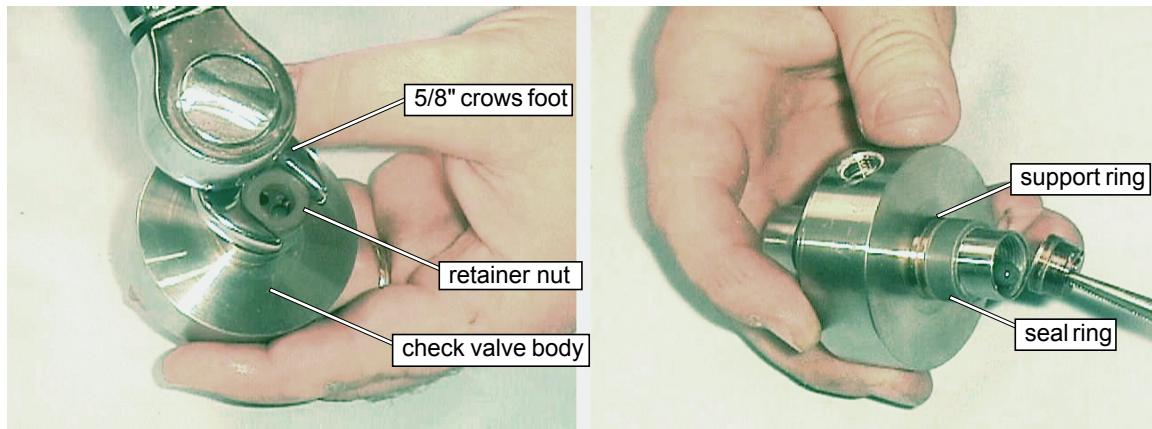

Figure 6-19
1. Begin disassembly of **check valve assembly** from the inlet (Cylinder) side. Clamp **check valve body** into soft-jaws of a vise. Use the 5/8" crows foot to remove the **retainer nut** (Figure 6-19).